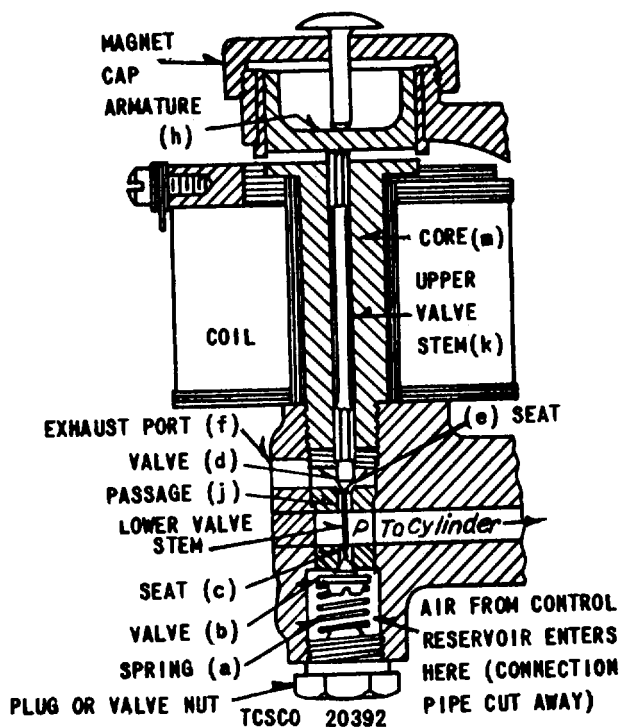

Figure 22. Cross section of open-coil type standard magnet valve.
- (4) Figures 22 and 23 illustrate the general principle of magnet valves, using a typical cross section of a standard valve, the chief distinction between the standard and inverted valves being that in a standard valve one bushing with two seats (upper and lower) and two valve stems are used, while in an inverted valve two bushings and one floating valve with two faces actuated by a pushrod and operating between the bushings are used. The construction of corresponding valve parts is similar and the following description, therefore, applies to all the valves.
- (5) Figures 22 and 23 show the diagrammatic cross-sectional view of a standard magnet valve with the operating parts in the position which they occupy when there is no current passing through the coil. Under this condition the spring (a) pushes the valve (b) up against the seat (c) and prevents any air from passing from the control air supply to the operating cylinder